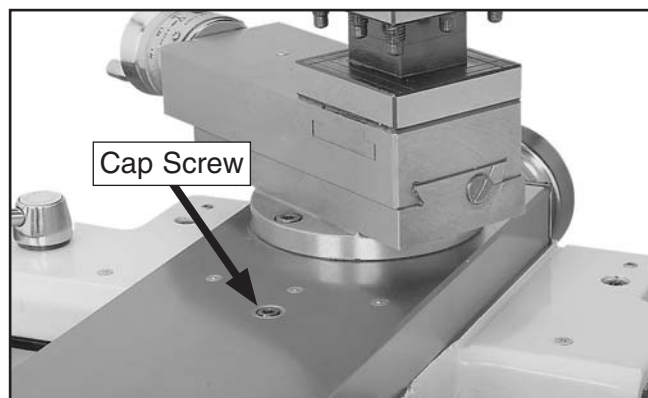

Figure 85. Cross slide backlash adjustment cap screw.
2. The cap screw shown in **Figure 85** secures the cross slide to the leadscrew nut. Remove this cap screw, then remove the cross slide.